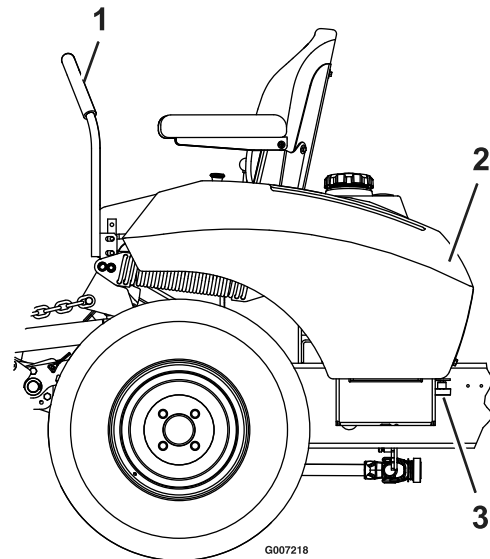

Figure 15
2. Locate and loosen the knob under the rear of the left fender (see Figure 15).